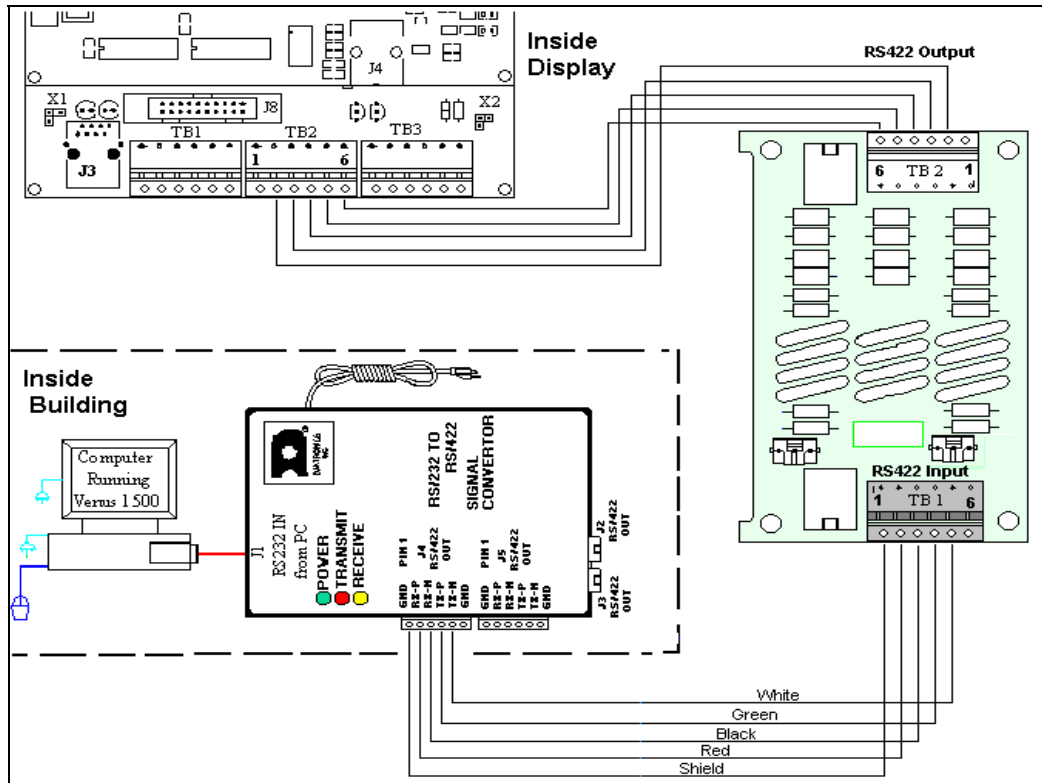

Figure 26: Signal Converter to Surge Suppressor in Display
- Drawing B-177662** and **Figure 26** below show the terminal block wiring.